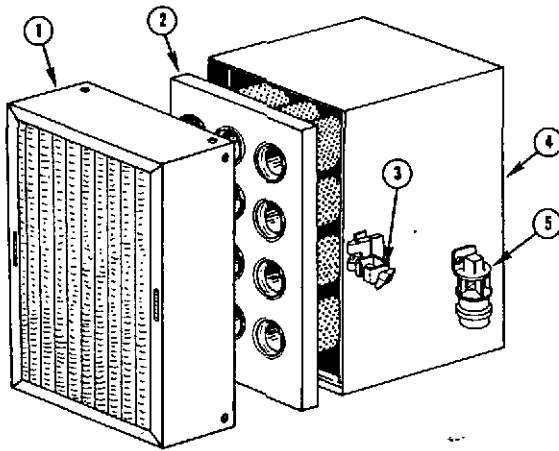

Fig. 5-21, V11009. Cartridge-type air cleaner — single stage
1. Loosen wingnuts (3, Fig. 5-21) on air cleaner housing and remove moisture eliminator (1) and rain guard, if used.
2. To remove dirty Pamic cartridge (2), insert fingers in cartridge opening using a "bowling-ball grip". Loosen all four corners of cartridge, one at a time, by pulling straight out. With larger cartridge, it may be necessary to break seal along edges of cartridge. After seal has been broken, pull the cartridge straight out and slightly up so cartridge will clear sealing frame and edges of air cleaner housing.
2. To install a new cartridge, hold cartridge (2, Fig. 5-21) in same manner as when removing from housing (4). Insert clean cartridge into housing; avoid hitting cartridge tubes against sealing flange on edges of air cleaner housing.
4. Position moisture eliminator (1) to air cleaner housing (4) and secure wingnuts (3).